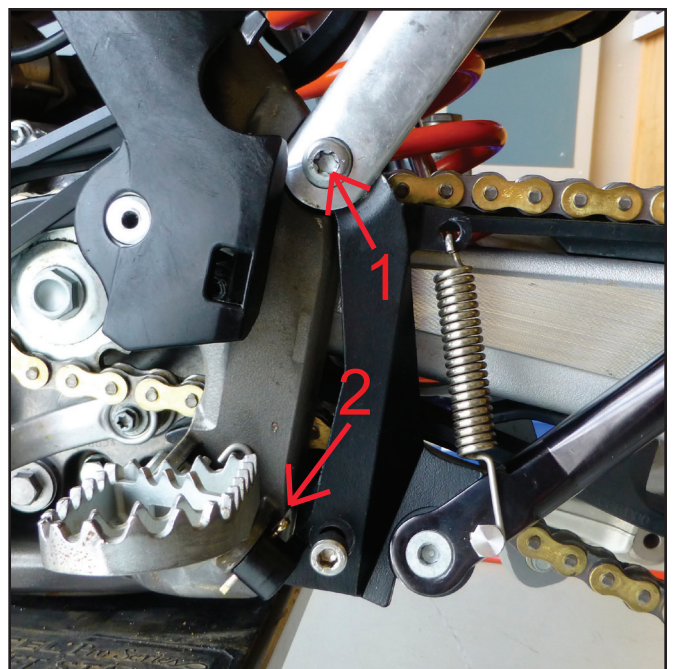

Figure 3
2. Slide supplied cotter pin through small hole in kickstand bracket boss and through foot peg pin hole. Rotate foot peg pin as necessary to align holes. (Figure 3)